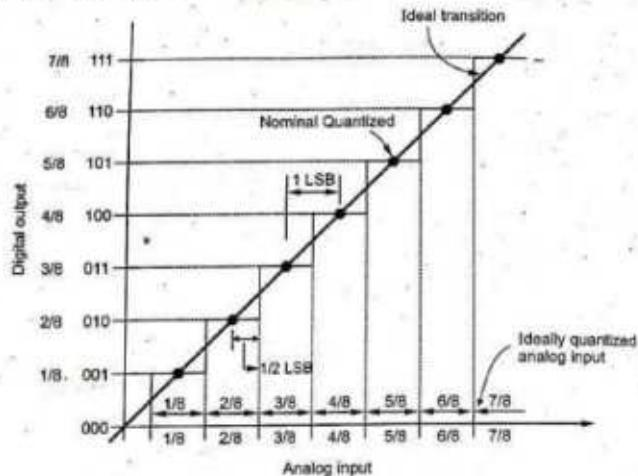

Fig. 6.7.1 Analog Input Vs digital output
- The Fig. 6.7.1 shows the digital output of an ideal 3 bit ADC plotted against the analog input voltage.
- Fig. 6.7.1 shows that the binary output is 011 for all values of  $V_i$  between  $\frac{1}{4}V$  and  $\frac{3}{4}V$ . There is an unavoidable uncertainty about the exact value of  $V_i$  when the output is 011. This uncertainty is specified as quantization error. Its value is  $\pm \frac{1}{2}$  LSB.